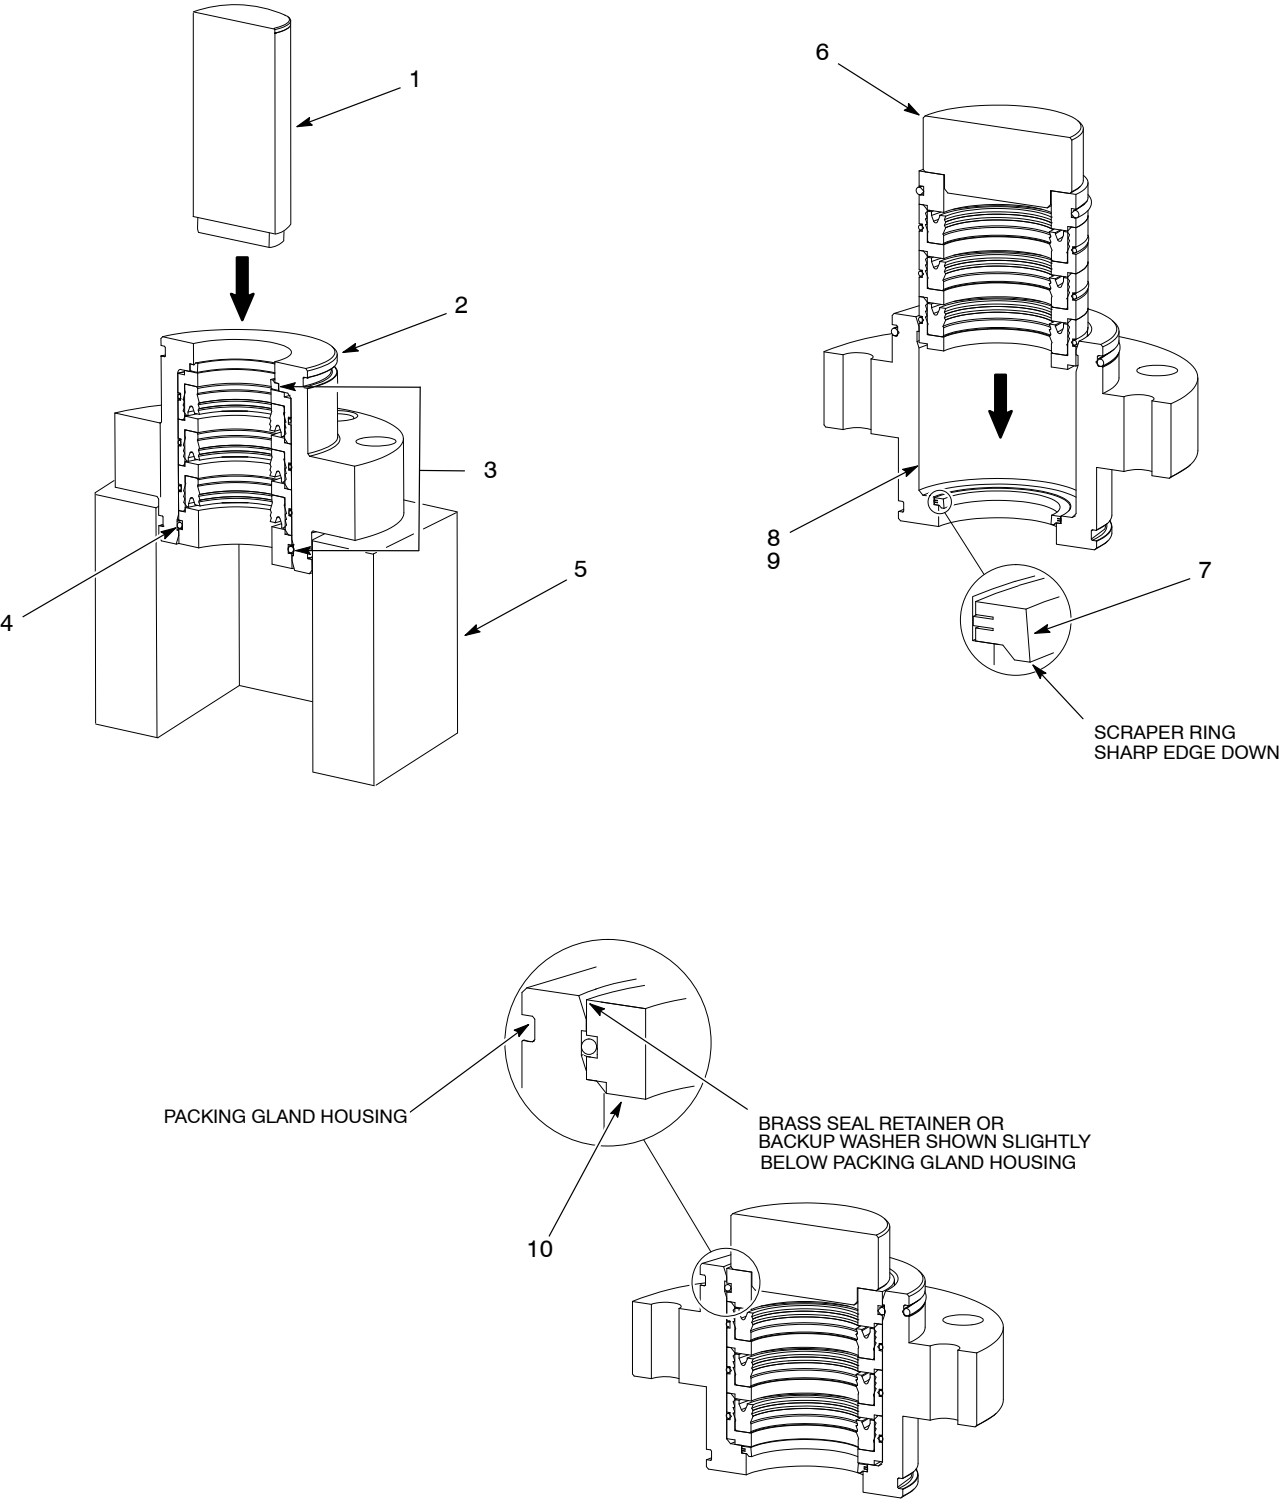

Figure 7 Typical Packing Gland Internal Parts Replacement
1. See Figure 7. Place the packing gland housing (2) on a fixture (5) with the solvent cup end facing up.